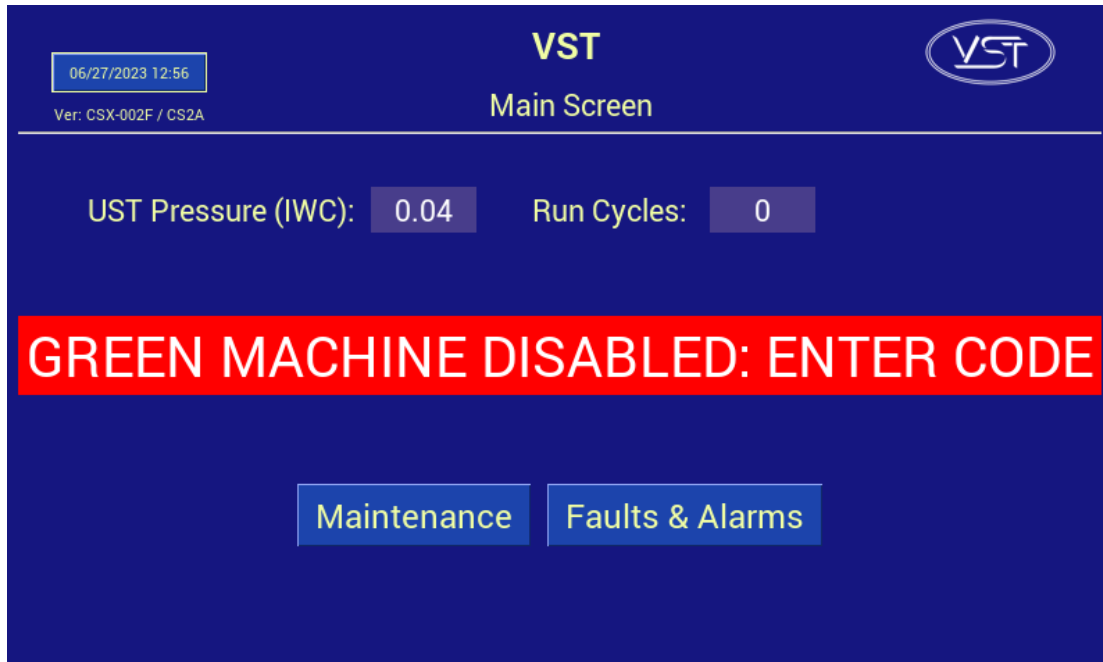

Figure 3-1: Main Screen with GREEN MACHINE DISABLED: ENTER CODE
- After the Control Panel is installed and power applied to the panel, **Figure 3-1** shows the Main Screen with the **GREEN MACHINE DISABLED: ENTER CODE** label, which will be discussed later in this Chapter.
After power is turned ON to the VST Control Panel (See Figure 3-1), the Main Screen will show **GREEN MACHINE DISABLED – ENTER CODE**. This means:
4. **See Figure 3-1:** VST Control Panel PLC Main Screen – GREEN MACHINE DISABLED: ENTER CODE